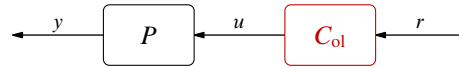

Fig. 1: Open-loop control system
**Question 1.** Consider the open-loop control system in Fig. 1 for the plant